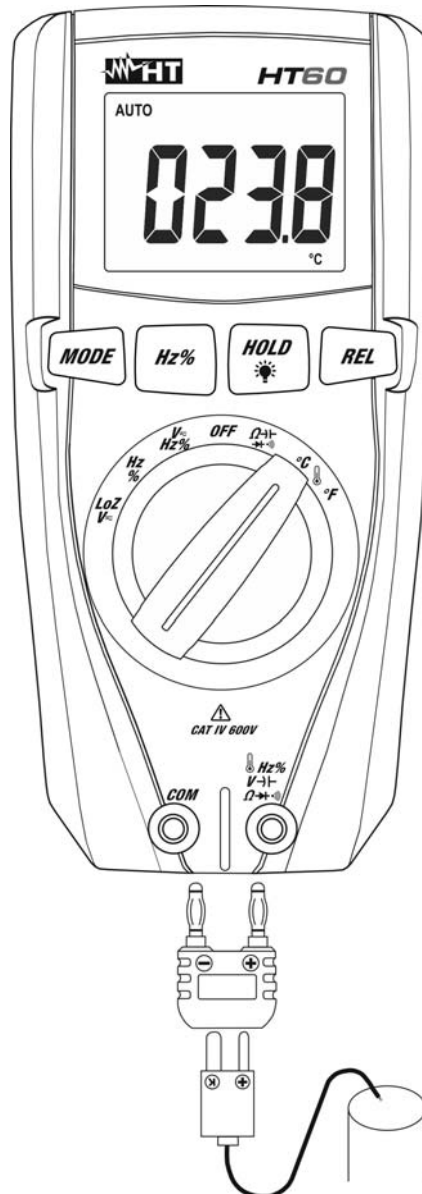

Fig. 9: Use of the instrument for Temperature measurement
2. Insert the provided adapter into input terminals **Hz% V- Ω → ← V+ Hz%** (polarity +) and **COM** (polarity -) (see Fig. 9).